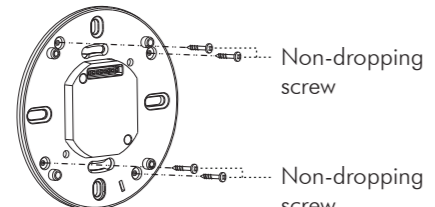

FIG.15
3.4.3.4 Insert 4pcs non-dropping screws to the corresponding screw holes on fixing plate, and those 4pcs screws will not drop off to provide convenience to the subsequent installations (See FIG.15).